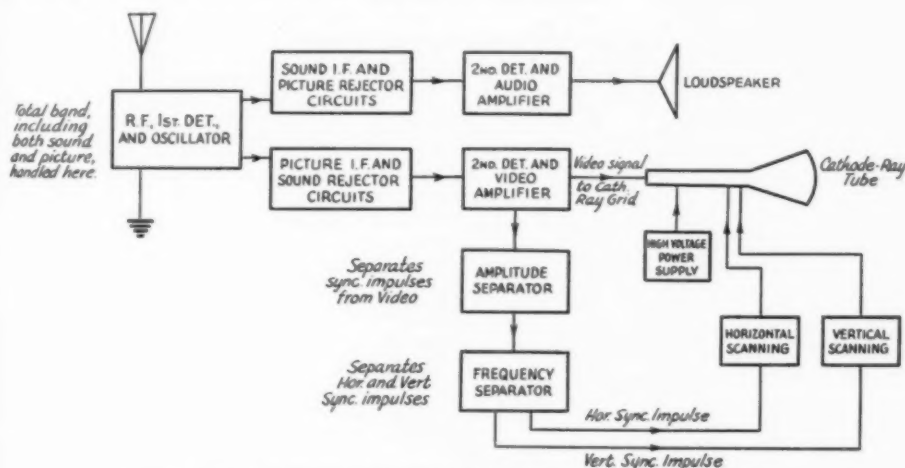

FIG. 1—THE ELEMENTS OF A MODERN TELEVISION RECEIVER
**B**EFORE discussing the construction of apparatus for television reception, it may be well to review briefly the essential elements of a television receiver. Fig. 1 shows a block diagram of these elements. The total frequency band, including both sound and picture carriers, is handled in the r.f. first detector, and oscillator circuits. The intermediate-frequency output of the first detector is then fed both to an i.f. amplifier which selects the sound i.f. and rejects the picture i.f., and to an i.f. amplifier